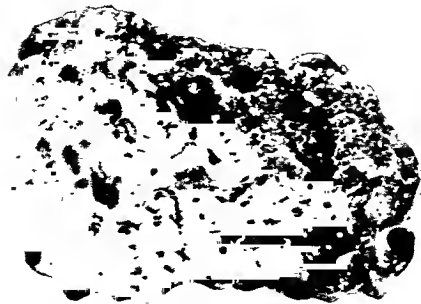

Figure 123. Chalcedony in Grape-like Form, Colorado. Courtesy of Ward's Natural Science Establishment, Inc.
*cluster*, and *oidos*, means *form*, mineralogists call a form which resembles a cluster of grapes a *botryoidal form*. If you happen to live in a region in which the chalcedony variety of quartz is found, it is quite possible that you will find specimens of this grape-like form, figure 123. There are many other minerals which show it, though it is difficult to